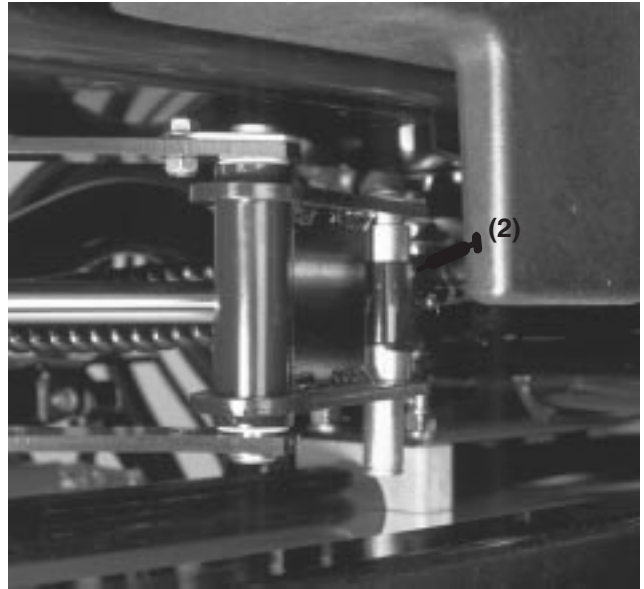
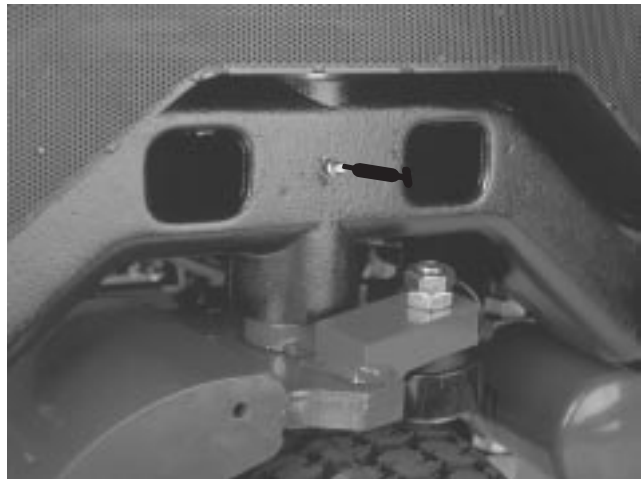
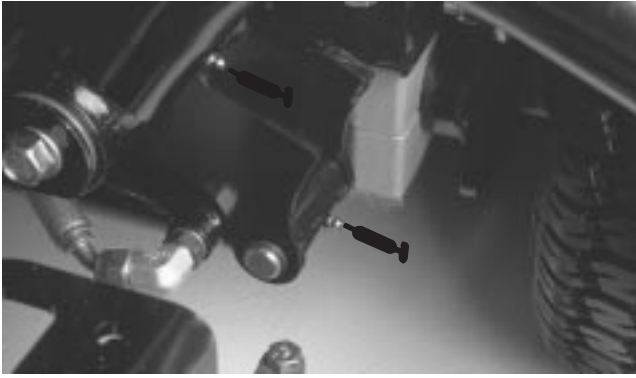
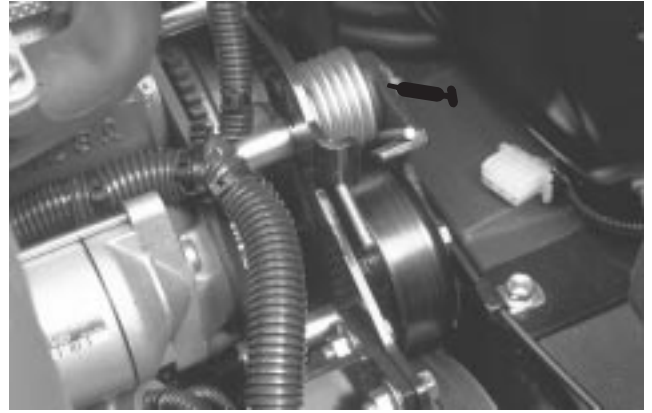

Figure 29
Figure 30
Figure 32
Figure 36
The traction unit bearings and bushings that must be lubricated are: Rear cutting unit pivot (Fig. 27), Front cutting unit pivot (Fig. 28), SideWinder cylinder ends (2) (Model 03201 only) (Fig. 29), Steering pivot (Fig. 30), Rear lift arm pivot and lift cylinder (2) (Fig. 31), Left front lift arm pivot and lift cylinder (2) (Fig. 32), Right front lift arm pivot and lift cylinder (2) (Fig. 33), Neutral adjust mechanism (Fig. 34), Mow/Transport slide (Fig. 35), Belt tension pivot (Fig. 36) Steering cylinder (Fig. 37).